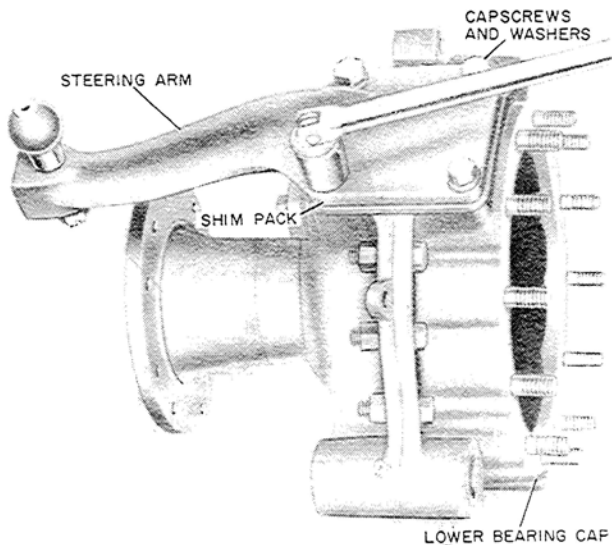

Figure U-35
2. Remove the steering arm capscrews, washers, steering arm and shim pack, Figure U-35.
3. Remove the lower bearing capbolts, washers, bearing cap and shim pack, Figure U-35.